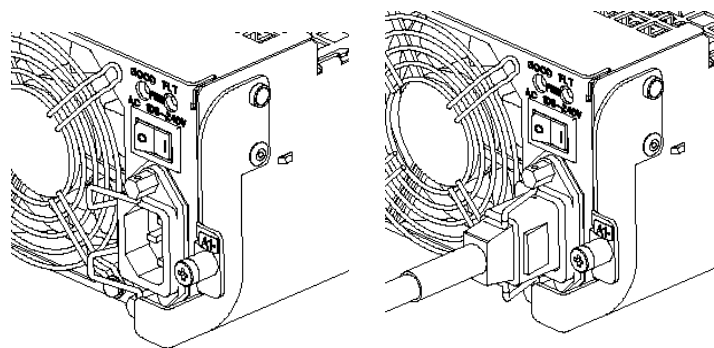

Figure 2-11. Connecting the Power Cord to the Power Supply
2. Insert the power cord into the power plug on the power supply, and secure the power cord with stopper. See Figure 2-11. Repeat this step on the second power supply.